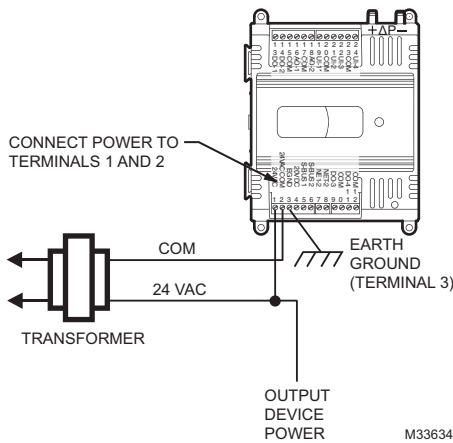
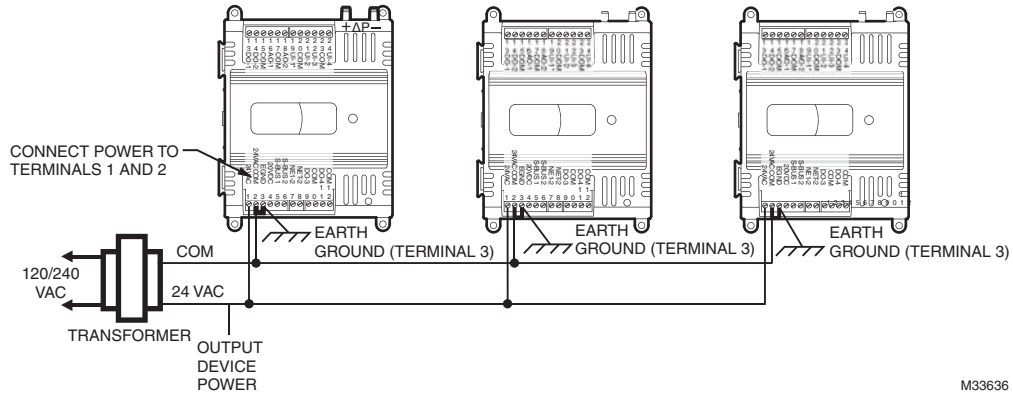

Fig. 10. Power wiring details for one controller per transformer
Fig. 12. Power wiring details for two or more controllers per transformer
For multiple controllers operating from a single transformer, the same side of the transformer secondary must be connected to the same power input terminal in each device. The earth ground terminal must be connected to a verified earth ground for each controller in the group (see Fig. 12 on page 9). Controller configurations are not necessarily limited to two devices, but the total power draw, including accessories, cannot exceed 100 VA when powered by the same transformer (U.S. only).
- Keep the earth ground connection wire run as short as possible (refer to Fig. 10-Fig. 12 beginning on page 8).
- Do not connect earth ground to the controller's digital or analog ground terminals (refer to Fig. 10 and Fig. 12).
- Do not connect the universal input COM terminals, analog output COM terminals or the digital input/output COM terminals to earth ground. Refer to Fig. 10-12 for wiring examples. The 24 Vac power from an energy limited Class II power source must be provided to the controller. To conform to Class II restrictions (U.S. only), the transformer must not be larger than 100 VA. Fig. 10 depicts a single controller using one transformer.
NOTE: More than one controller can be powered by a single transformer. Fig. 12 shows power wiring details for multiple controllers. Controller configurations are not necessarily limited to three devices, but the total power draw, including accessories, cannot exceed 100 VA when powered by the same transformer (U.S. only). For power wiring recommendations, see "Power" below.
- When multiple controllers operate from a single transformer, connect the same side of the transformer secondary to the same power input terminal in each device. The earth ground terminal (terminal 3) must be connected to a verified earth ground for each controller in the group (see Fig. 12).